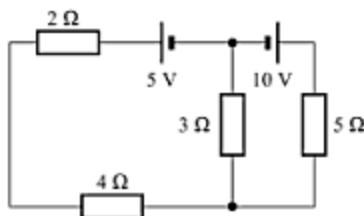

Fig. 3.72
13. Determine the current through the $3\text{-}\Omega$ resistor in the circuit shown in Fig. 3.72, by using mesh analysis. [Ans. $I_{3\Omega} = -1.35 \text{ A}$]